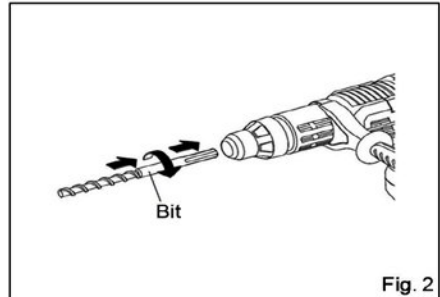

Fig. 2
- 2 TO INSTALL THE DRILL BIT KEEP ROTATING THE BIT ANTICLOCKWISE UNTIL IT IS INSTALLED IN PLACE **Fig2**